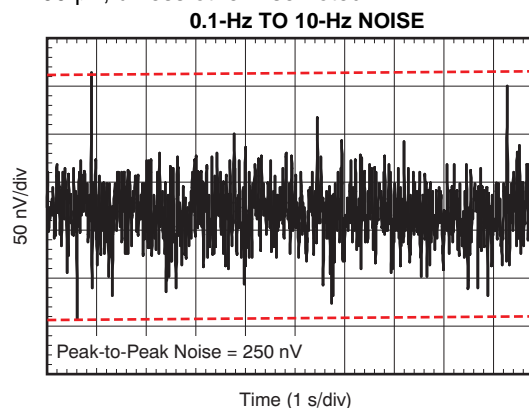

Figure 14.
0.1-Hz to 10-Hz Noise	Figure 14